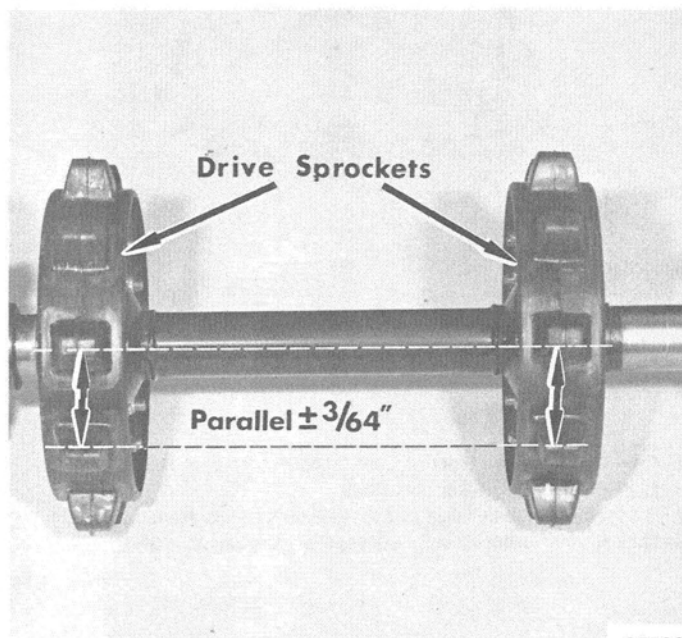

Figure 4. Sprocket Alignment
2. With sprocket retaining screws snug, use one of the following methods to check parallel alignment (Figure 4) between sprockets: